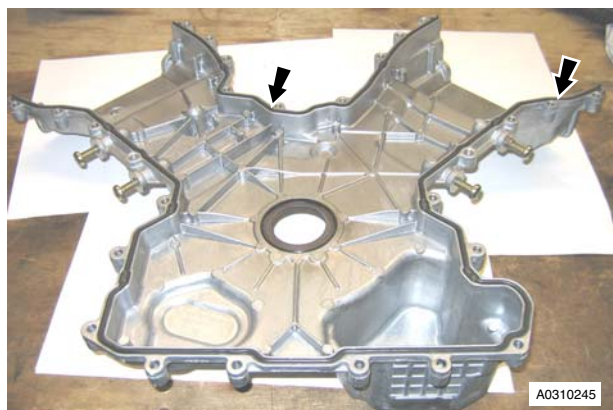

Figure 7
- Remove the outer and inner rubber seals from timing cover (Refer to Figure 7).